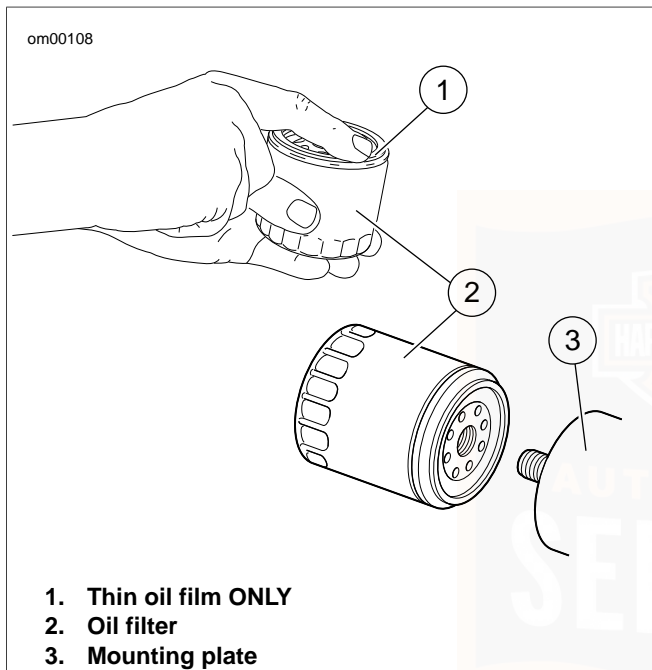

Figure 25. Applying Thin Oil Film
5. See Figure 25. Lube the gasket on new oil filter with engine oil and install new filter. Hand tighten oil filter 1/2-3/4 turn after gasket contacts filter mounting surface.